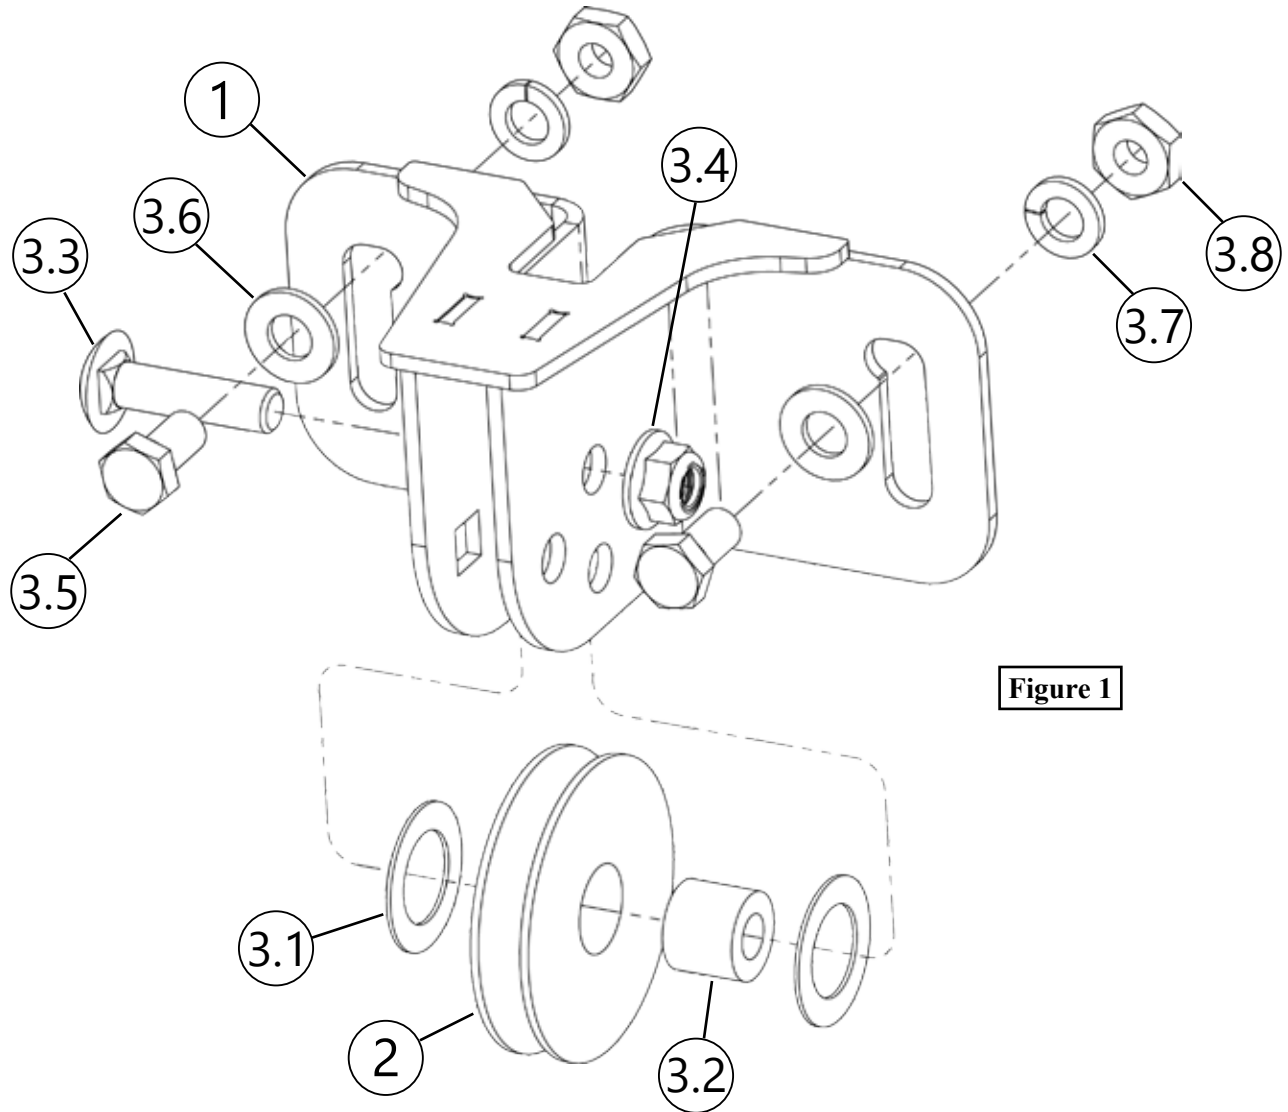

Figure 1
2. Place cable over pulley and install to Pulley Bracket using the 1 1/2" Carriage Bolt (3.3), Nylon Spacers (3.1), Nylon Bushing (3.2), and Flange Nut (3.4) to Pulley as shown in Figure 1. Do not over tighten. The pulley must be able to rotate freely.
3. Loosely install 3/8" bolt (3.5), washer (3.6), lock washer (3.7), and nut (3.8) through fairlead bracket and pulley bracket as shown in figures 1 and 3. Slots have been cut into the brackets to adjust for clearance of plastic on the machine.